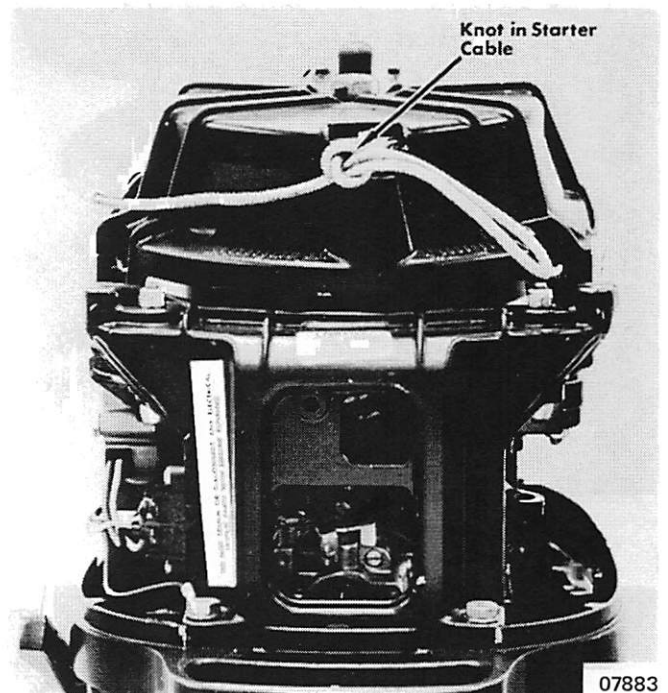

Figure 3. Starter Rope Stopped at Housing
4. Slide starter rope thru top cowl and tie slip knot to prevent starter rope from retracting inside starter housing. (Figure 3)